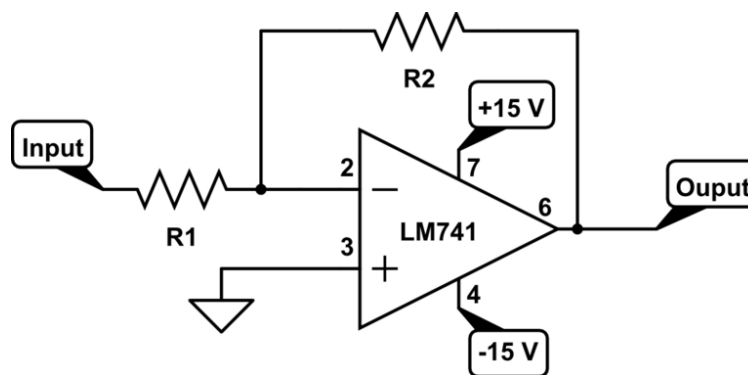

Figure 4: Inverting Amplifier. The supply voltages and pin numbers are shown here to help you get started. They won't be shown in the future!
- Q. In EveryCircuit, simulate the inverting amplifier circuit shown in figure 4 with  $R1 = 1\text{ k}\Omega$  and  $R2 = 10\text{ k}\Omega$ . (You can flip the opamp to make it match the diagram by selecting it and hitting ‘f’.) Connect a sine wave source to the input. Plot the input voltage (click on the wire NOT on the sine wave generator) and the output voltage. Include a screenshot in your report and be ready to show the working simulation at the beginning of lab.
- Construct the inverting amplifier circuit shown in figure 4 with  $R1 = 1k\Omega$  and  $R2 = 10k\Omega$ .